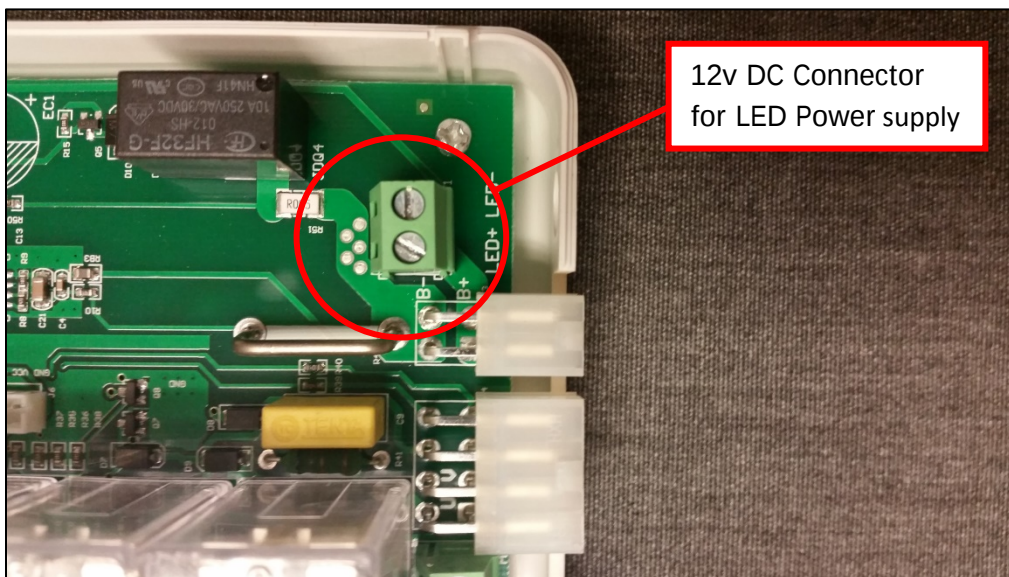

Fig.4
Note: This Unit has an optional connector to control Led Light (On/Off). Fig.4 below illustrates where the 12v DC supply for the LED lighting can be found. To open the controller box, grasp and squeeze the lid along the top and bottom edges.
- a. Set the Adjustment Dial to level 5. (See Fig.4).
- e. Press the programming button on the GC779G Motion sensor (See Fig.4). Both the Purple LED on the Motion sensor and the Red LED on the Motor controller will flash once and extinguish. This completes the programming sequence.